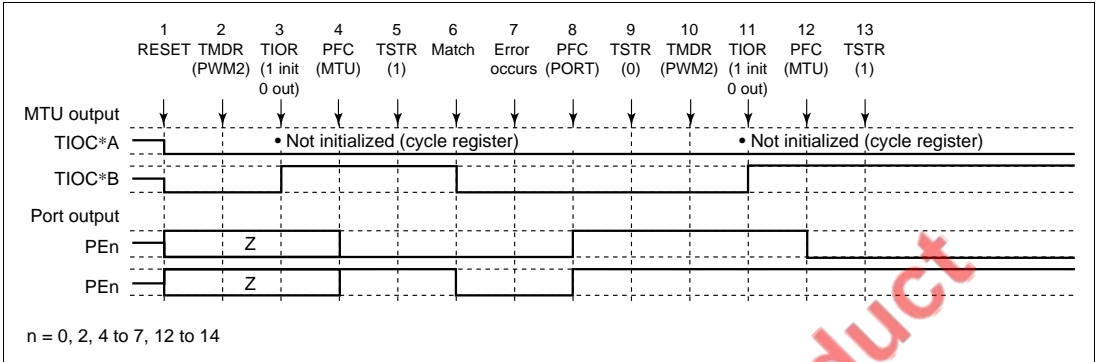

Figure 8.57 Error Occurrence in PWM Mode 2, Recovery in PWM Mode 2
(9) Operation when Error Occurs during PWM Mode 2 Operation, and Operation is Restarted in PWM Mode 2: Figure 8.57 shows an explanatory diagram of the case where an error occurs in PWM mode 2 and operation is restarted in PWM mode 2 after re-setting.